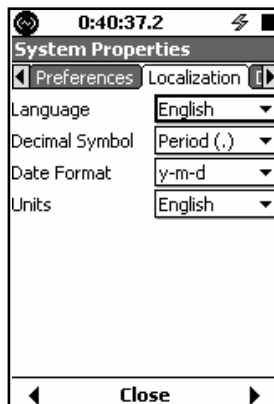

FIGURE 12-22 Localization Tab
*The default values for the **Localization** tab are shown in FIGURE 12-22.*
The **Localization** tab contains display options for values that may vary from one country or region to another, as shown in FIGURE 12-22.